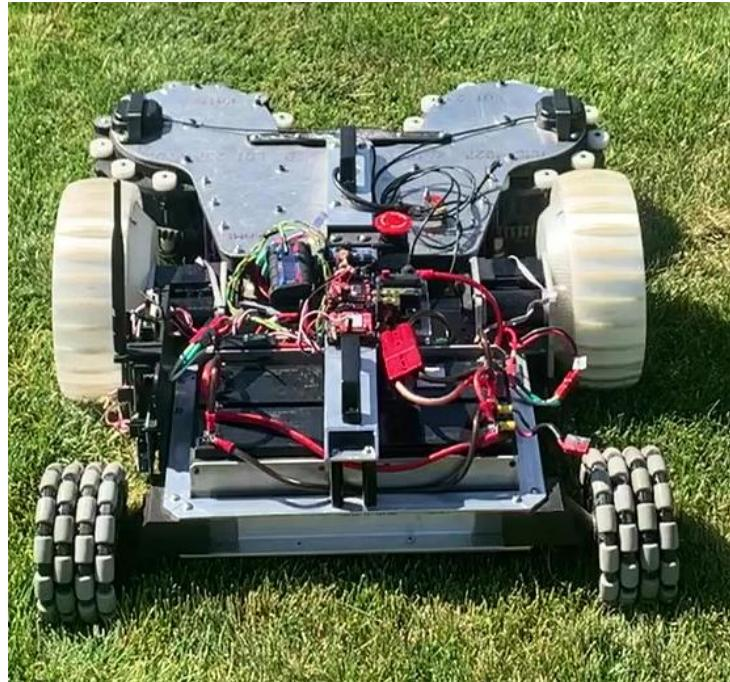

Figure 1: Mark2.7 Prototype
- Figure 1. Prototype of Mark2.7 Robot
For this project, all hardware of the Mark2.7, the model of the robot for this project, were background materials, not the focus of this project. The list of electronic hardware was extensive, and for the purpose of this project, I will only be talking about the computing module, the sensors it collected data from and the controllers it sent data to for controlling the mechanical parts of the Mark 2.7. The list of these components is as follows: A computing module called a Raspberry Pi controller where all python code for the Mark2.7 was run, and a Arduino I2C Interface, for sharing data between all sensors, and a Berry Inertial Measurement Unit (IMU) used for Gyroscope (GYRO) sensor and Global Navigation Satellite System (GNSS) sensor purposes. The GYRO allowed the robot to read heading values, also known as Z-axis values, that read what direction the robot is pointed in. A consumer grade GNSS would not be adequate for the scope of this project, as accuracy is not as high. The Real Time Kinematic (RTK) GNSS allowed the robot to read latitude and longitude values. The mechanical hardware involved in the programming process included the following: Optical shaft encoders from Vex Robotics for reading the robot's speed, Victor SPX Motor Controllers for powering both wheels, and a circular disk cutting system on the front of the Mark2.7. This Mark2.7 model is shown below in Figure 1: